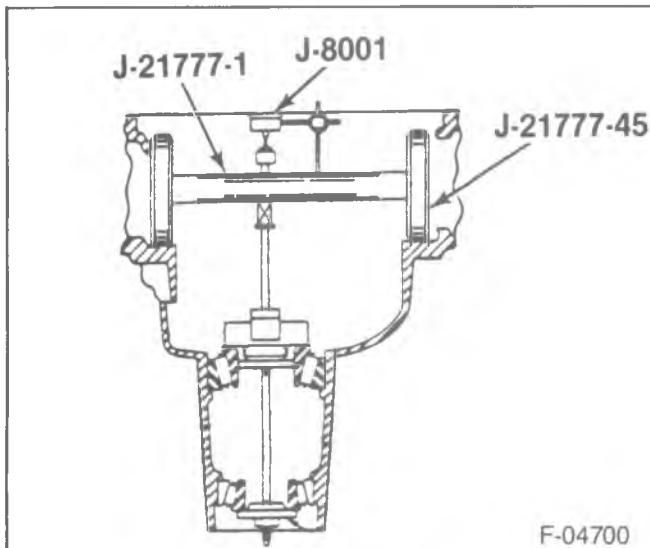

Figure 29—Pinion Gaging Tools
- 8. Assemble J-21777-45, J-21777-1 Arbor, and J-8001 to the differential bearing bore as shown in figure 29.